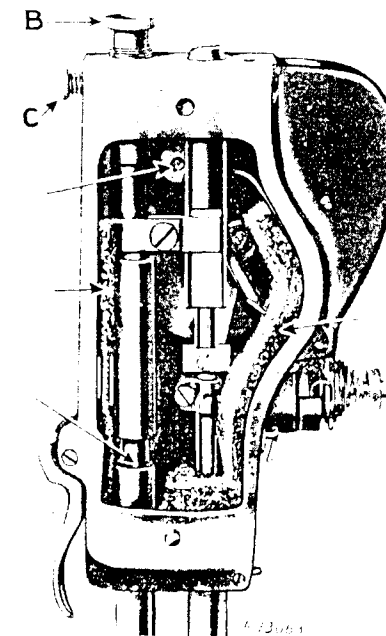

Fig. 5. End View of Machine, Showing Oiling Points
The pressure of the presser foot on the material is regulated by the thumb screw (B, Fig. 5) at the top of the machine. To increase the pressure, loosen the set screw (C, Fig. 5) at the back of the machine and turn the thumb screw (B) downward. To decrease the pressure, turn the thumb screw (B) upward. When the required amount of pressure is obtained, tighten the set screw (C) at the back of the machine.